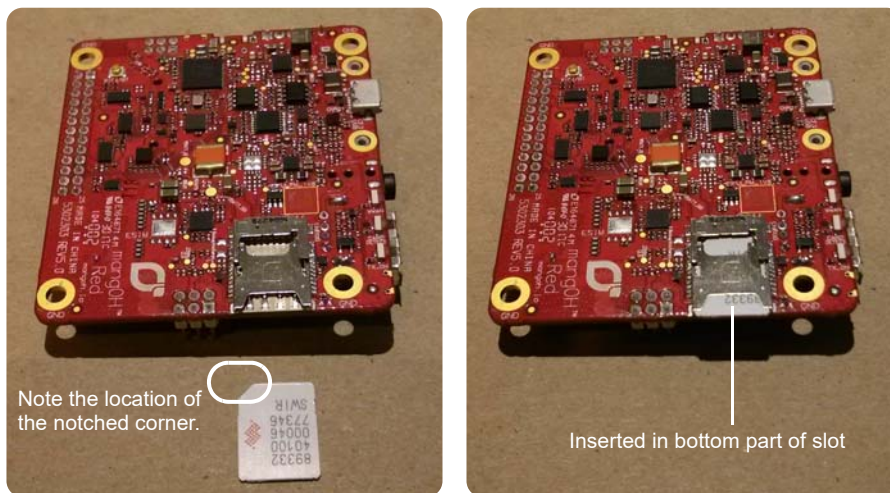

Figure 3-10: SIM Insertion
2. Insert the SIM card with contacts face-down into the desired slot—note the location of the notched corner of the card in Figure 3-10.